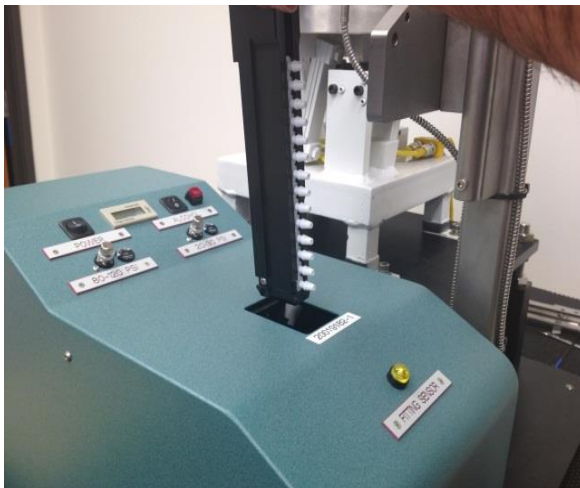
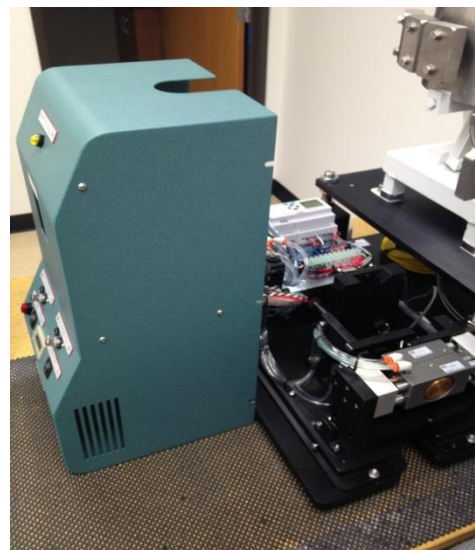

Figure 2.4.4
Figure 2.4.5
- Remove the magazine from the unit by pulling straight up. **Figure 2.4.4** Loosen the six (6) button head screws on both sides of the cover. Lift the cover up and carefully place on left side of base as wire and air lines are connected from the cover to the unit. **Figure 2.4.5**